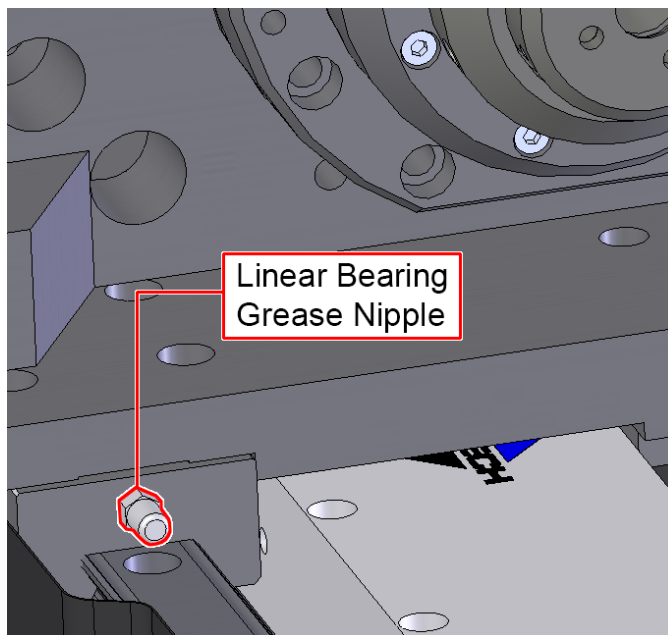

Figure 4-1: Linear Bearing Grease Nipple
- Step 6: Add grease as required to the grease nipple on each linear bearing truck (refer to Figure 4-1).